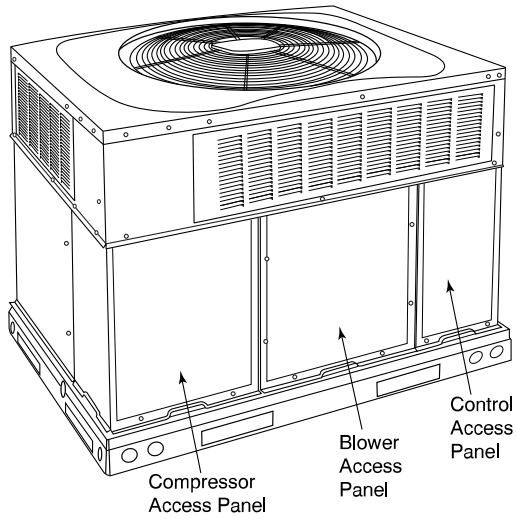

Fig. 41 – Unit Access Panels
An LED (light-emitting diode) indicator is provided on the integrated gas unit controller (IGC) to monitor operation. The IGC is located by removing the control access panel (see Fig. 41). During normal operation, the LED is continuously on (See Table 22 for error codes).
1. Remove control access panel. (see Fig. 41).
Remove blower access panel (see Fig. 41). Limit switch(es) are located on the fan partition.
3. Remove control access panel (See Fig. 41).